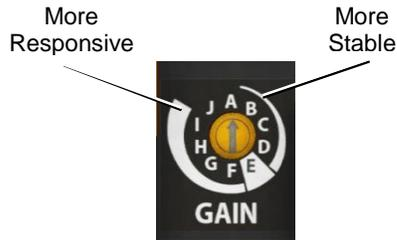

Figure 44: Selectable Gain Switch
**NOTE:** The gain switch is LIVE meaning that regardless of the Auto-Tune selection, the gain settings can be adjusted at any time during operation by changing the selectable Gain switch position. See Figure 44: Selectable Gain Switch.
Use the Selectable GAIN Switch to adjust the gain at any time during operation. This adjustment takes effect immediately. For faster response select settings above “E” (F-J). For a more stable response, select settings below “E” (B-D). See Figure 44: Selectable Gain Switch.